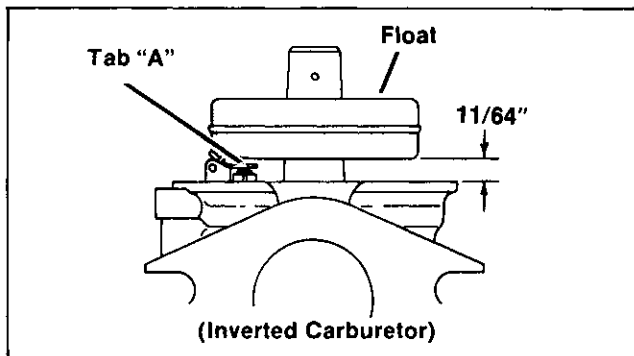

Figure 4-4. Setting Float Level
- 2. Set float level.** Invert carburetor—with float resting lightly against inlet needle in its seat, there should be $11/64"$ ($\pm 1/32"$) clearance between machined surface of casting and free end of float (side opposite needle seat). Adjust by bending float tab "A" with a small screwdriver. See Figure 4-4.